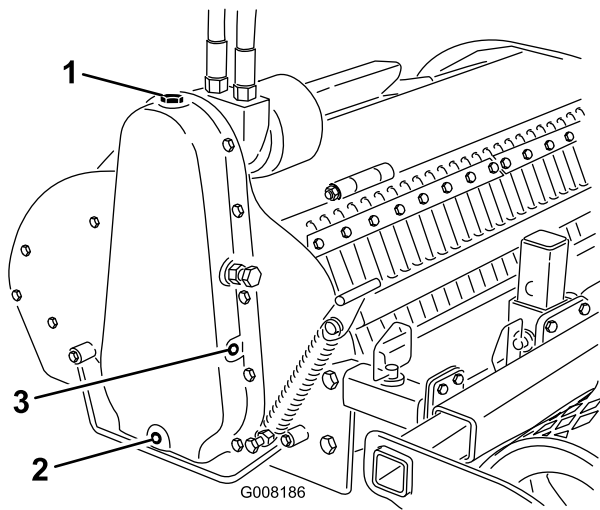

Figure 10
4. Open the oil fill hole on top of the drive chain case (Figure 10).
6. Remove the drain plug (Figure 10).
8. Remove the side plug (Figure 10).